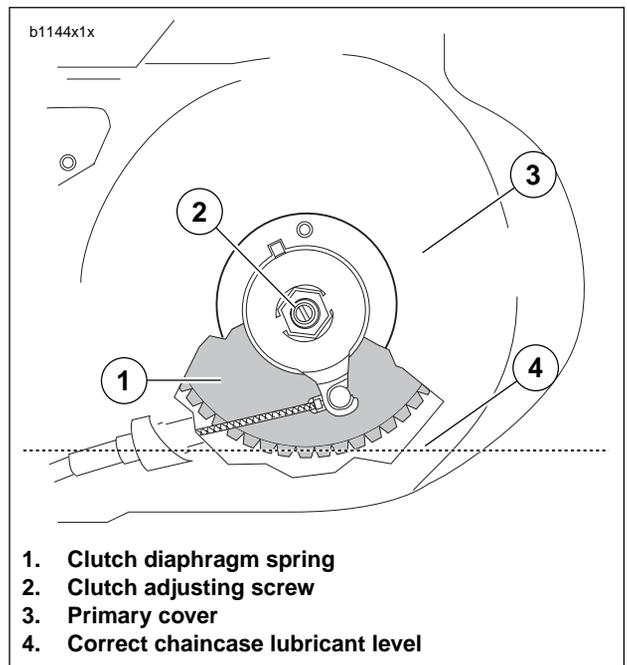

Figure 1-21. Fluid Level
5. See Figure 1-21. Add SPORT-TRANS FLUID (Part No. 98854-96 quart size; Part No. 98855-96 gallon size) as required until fluid level (4) is even with bottom of clutch diaphragm spring (1).